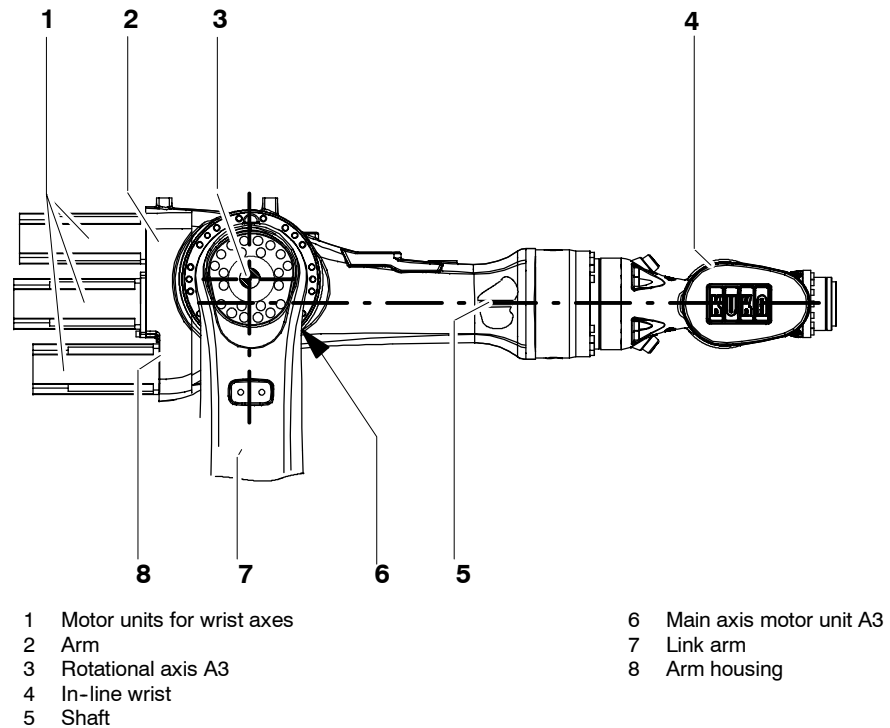

Fig. 4 Arm
The arm assembly (Fig. 4/2) embodies the driven element of axis 3 of the manipulator. The arm is flange-mounted to the side of the link arm (7) through a gear unit with integrated bearings and is driven by main axis motor unit A3 (6). The rotational axis (3) of the arm has been so selected that with the rated payload there is no need for an additional counterweight to balance the masses on the arm.